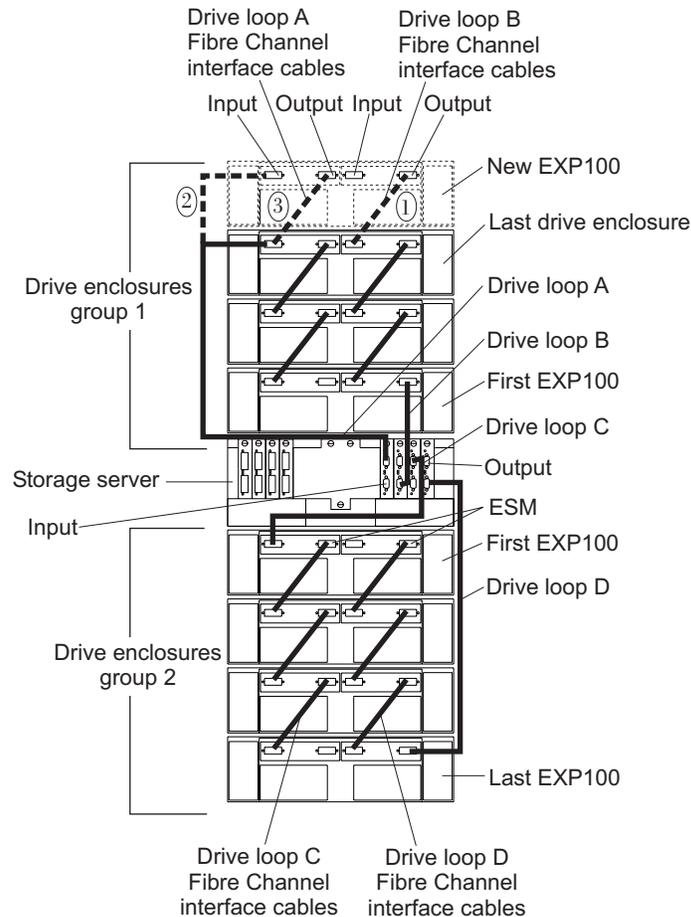

Figure 37. Cabling the EXP100 to two redundant loops
Figure 37 shows an example of a DS4500 configured with four drive loops. Drive loops A and B form one redundant fibre-channel loop. Drive loops C and D form the second redundant fibre-channel loop.
The dashed lines in Figure 37 show how to add a new EXP100 to an existing DS4500 configuration with EXP100s. To add the new EXP100 shown in Figure 37, perform the following steps:
2. Make the fibre-channel connection marked 1 in Figure 37 on page 51 (drive loop B). Then power on the new EXP100 and verify that it is recognized by the Storage Manager software GUI.
3. Make the fibre-channel connection marked 2 in Figure 37 on page 51.
4. Make the fibre-channel connection marked 3 in Figure 37 on page 51 (drive loop A).